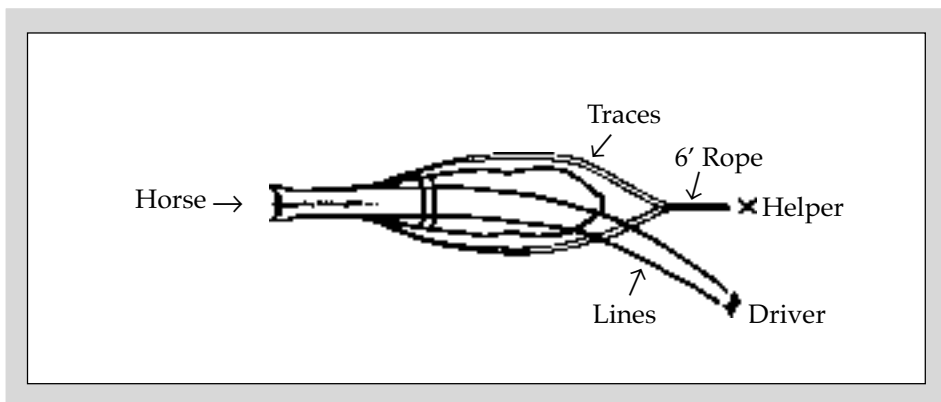

Figure 12. Putting Pressure on the Traces.
After your horse has become proficient at ground driving, it must be taught to pull. Run the reins through the saddle terrets. Untie the traces and run them through the shaft loops. Tie the ends together with a rope at least six (6) feet long. Have a helper take the end of the rope and hold the traces parallel to the ground in the proper position and walk behind the horse as you ground drive it (see Figure 12).